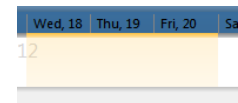
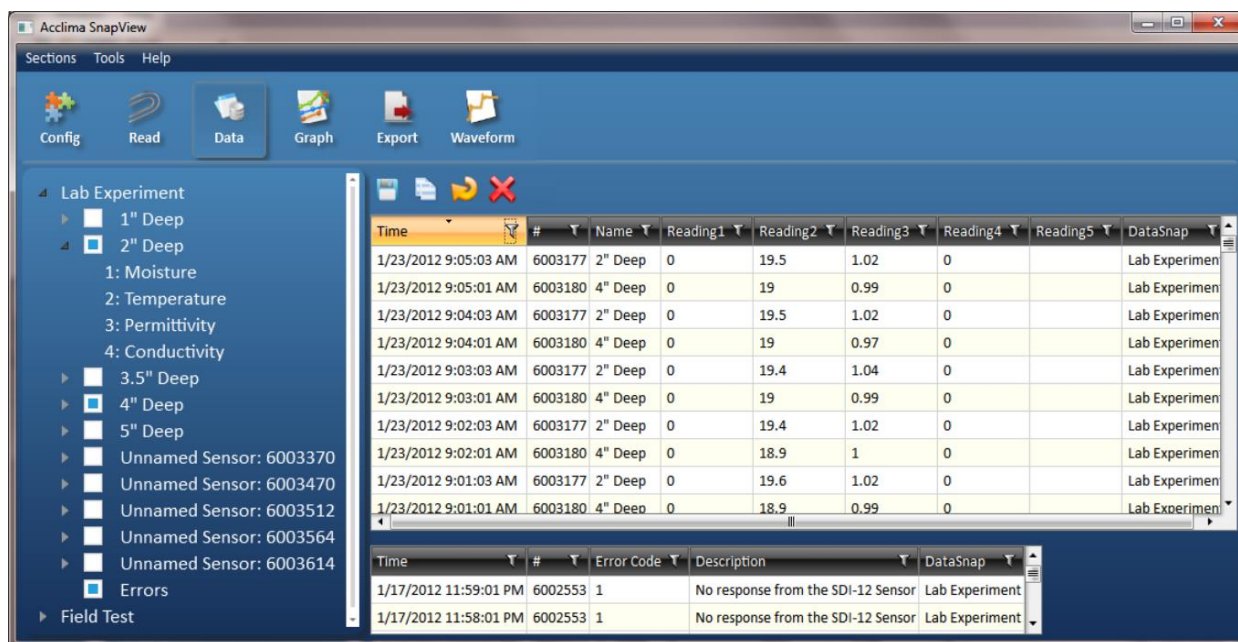

Figure 20 - Selecting Multiple Days in the Time Bar
Figure 23 – Data in Grid View
- Click the 'Read' button to read each selected sensor. The sensor's name, serial number, reading time and measurement data is displayed. If a configured sensor is not attached to the DataSnap, an error is displayed. Notice in figure 20, the sensor named '2" Deep' had an error.
To select a single day, click on the date in the blue region at the top of the time bar. As an example, figure 23 shows that Thursday January 19, 2012 has been selected. To select multiple full days, left click on a date and while holding down the left mouse button, drag to another date and release the button. The selection range will be highlighted in yellow as the mouse is dragged. The selection window will now change to the range that was selected. As an example, Figure 20 shows how the time bar would look while clicking 'Wed, 18' and dragging to 'Fri, 20'. Once the mouse is released, the range selection window will move and the main graph will display data for the three selected days.
In figure 23, two sensors have been selected. Those sensors are named '2" Deep' and '4" Deep'. Their data is displayed in the grid to the right, sorted chronologically. The '2" Deep' sensor has been expanded to show the names of its readings. The errors have also been selected and are displayed.